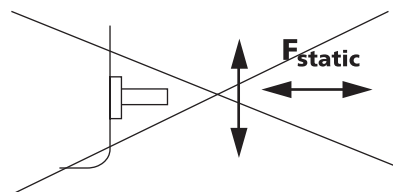

Figure 35
- For manual-emergency-tripping a force of up to 250 N may affect to the interlocking pins. But no static force shall be applied (Figure 35).